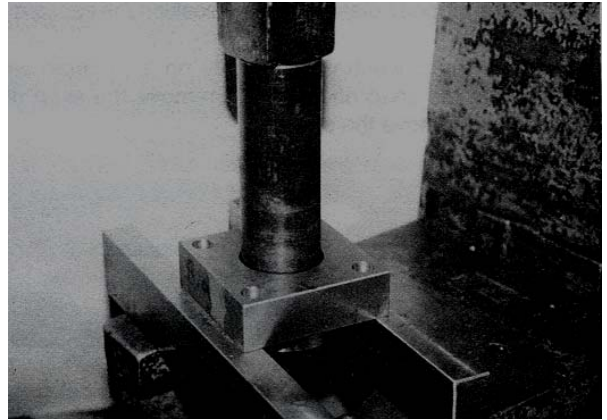

FIGURE 47
8) Position the bearing block on the arbor press with the bearing facing down. Determine that the bearing block is properly supported. Using the arbor press and an appropriate sized thrust bushing, remove the bearing from the block. FIGURE 47.